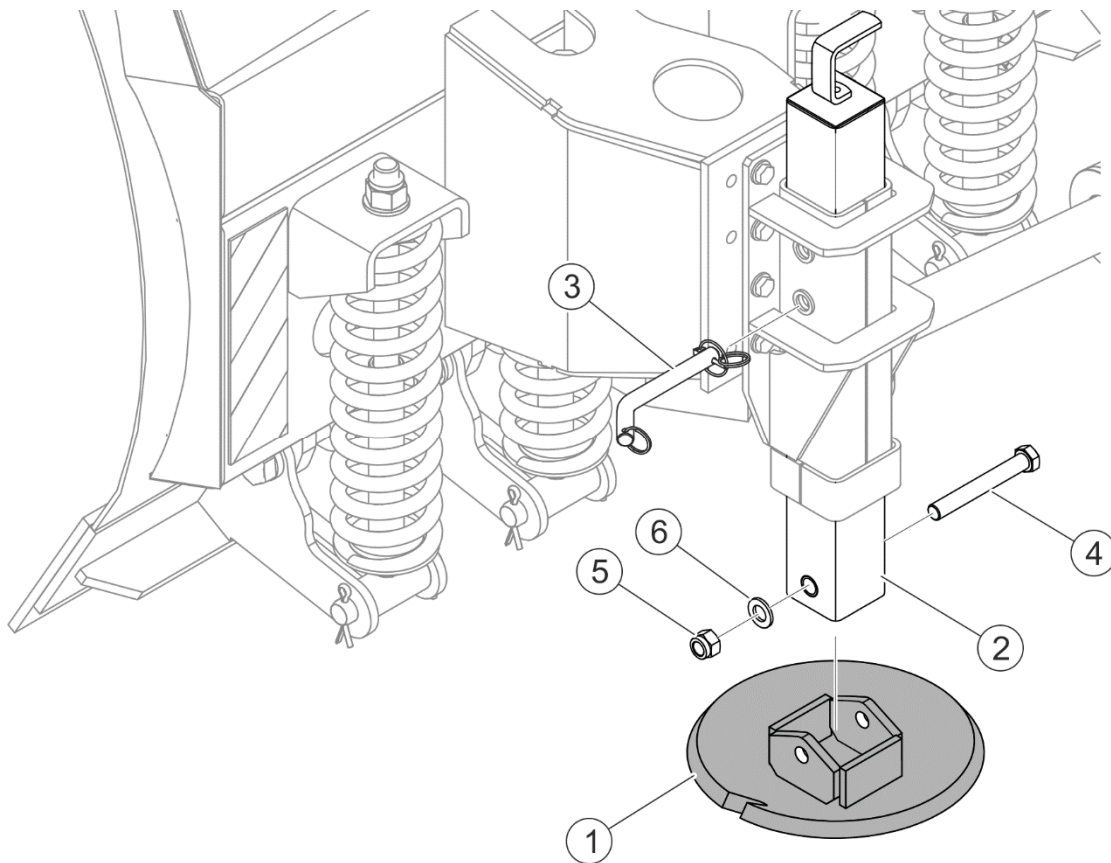

FIGURE 5.12 Slide replacement
(1) - slide; (2) - slider; (3) - pin, (4) - bolt; (5) - nut; (6) - washer
Excessively worn or damaged slide elements must be replaced with new ones (FIGURE 5.12). In order to do this, raise the snow plough and support it with sufficiently stable and strong supports. If the snow plough is hitched and raised on the front three-point linkage, protect it from falling and immobilise the carrying vehicle (turn off the engine and engage the parking brake). Undo nut (5), remove bolt (4) fixing slide (1) with slider (2). Check slide (1)